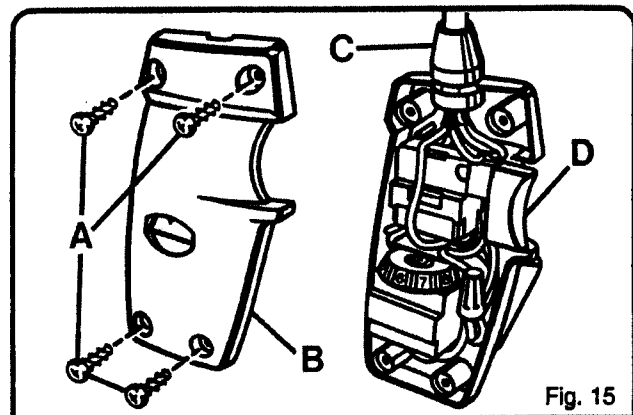

Fig. 15
See Figures 15 & 16.
2. Remove screws (A) and handle cover (B). See Fig. 15.